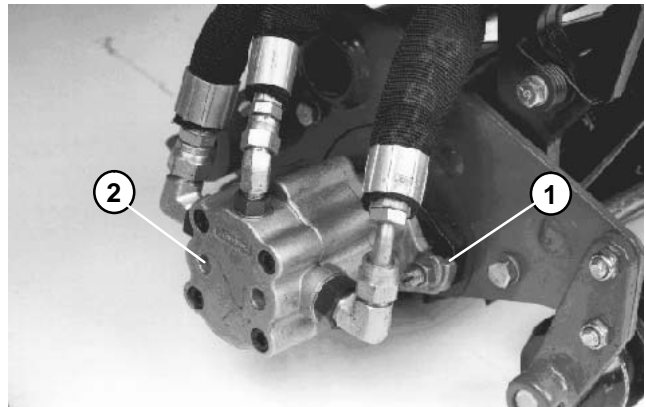

Figure 19
3. Loosen reel motor mounting nuts. Rotate motor clockwise so motor flanges clear studs. Pull motor off of cutting unit (Fig. 19).
3. Install motor onto the cutting. Rotate motor counter-clockwise so motor flanges engages studs (Fig. 19).